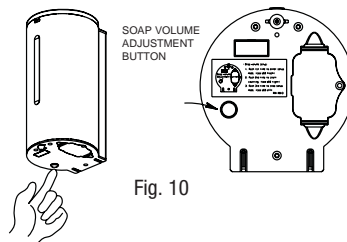

Fig. 10
- Drop volume setup: (Fig. 10)